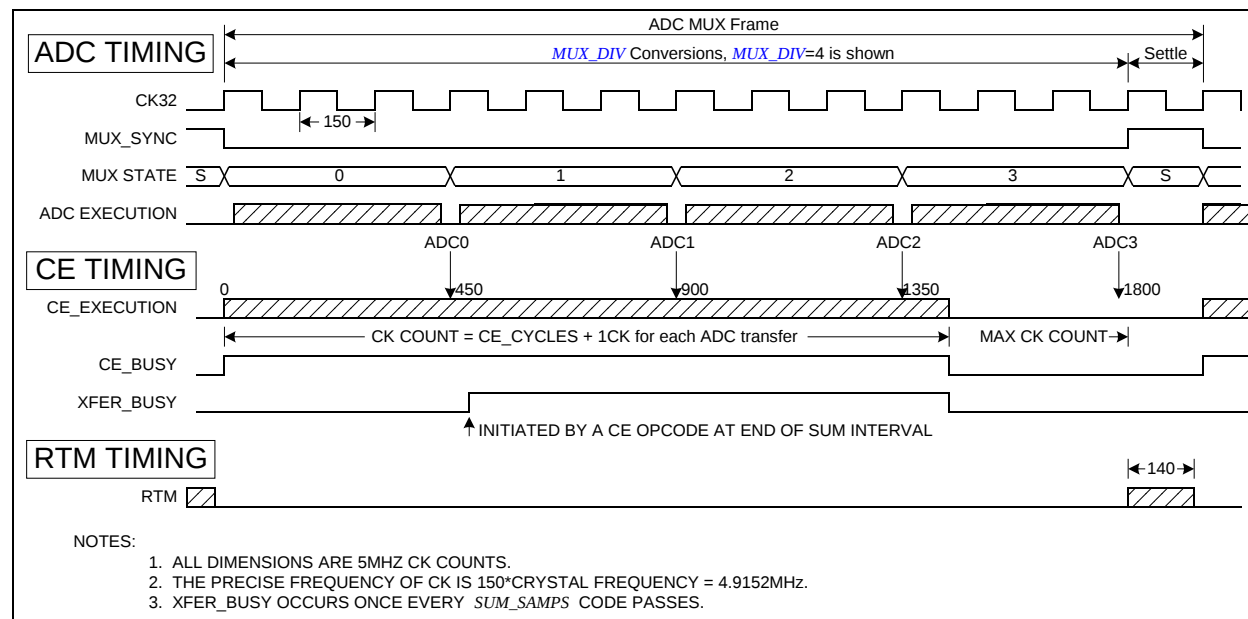

Figure 11: Timing Relationship Between ADC MUX, CE, and RTM Serial Transfer
Figure 11 summarizes the timing relationships between the input MUX states, the CE_BUSY signal, and the RTM serial output stream. In this example, *MUX_DIV*[3:0] = 4 (I/O RAM 0x2100[7:4]) and *FIR_LEN*[1:0] = 10 (I/O RAM 0x210C[1]), (384), resulting in 4 ADC conversions. An ADC conversion always consumes an integer number of CK32 clocks. Followed by the conversions is a single CK32 cycle.
Figure 11 also shows that the RTM serial data stream begins transmitting at the beginning of state S. RTM, consisting of 140 CK cycles, always finishes before the next CE code pass starts.